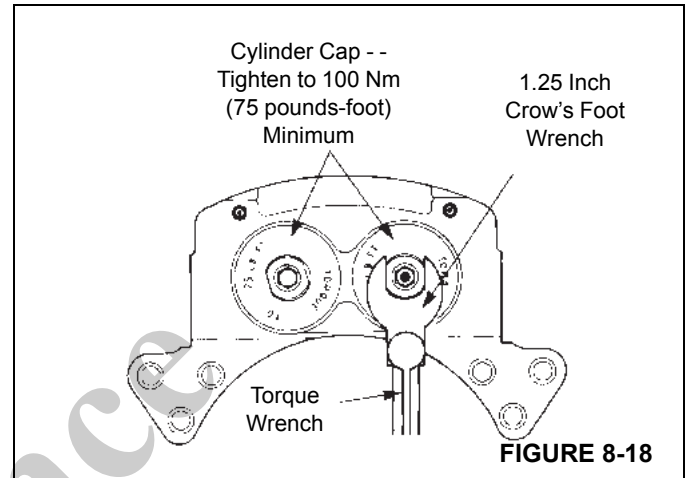

FIGURE 8-18
6. Install the cylinder caps in the caliper housing. Tighten the cylinder caps to 102 Nm (75 pounds-foot) minimum as shown in (Figure 8-18).